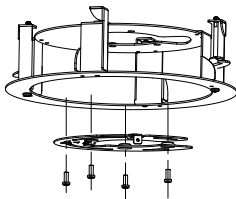

Figure 2-62 Fix the Base Plate to In-ceiling Bracket
3. Align the cable holes of the base plate to the cable holes of the in-ceiling bracket and then fix the base plate onto the bracket with the four screws in the package (supplied), as shown in Figure 2-62.